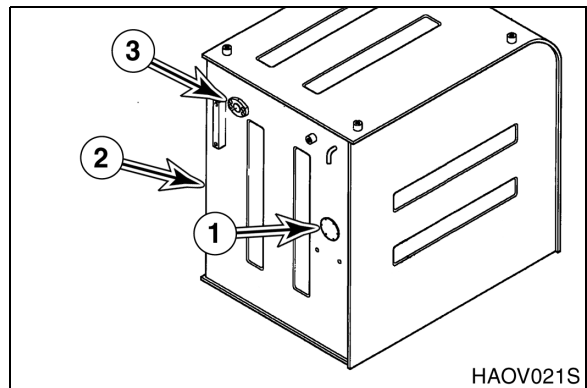

Figure 8
13. Tag and disconnect wires leading to fuel sensor (1, Figure 8) on side of fuel tank (2).
14. If equipped, remove components from the fuel filler pump port (3, Figure 8) on side of fuel tank (2).